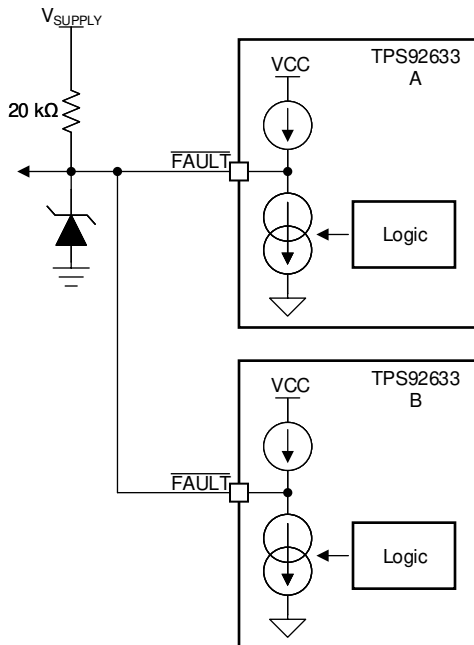
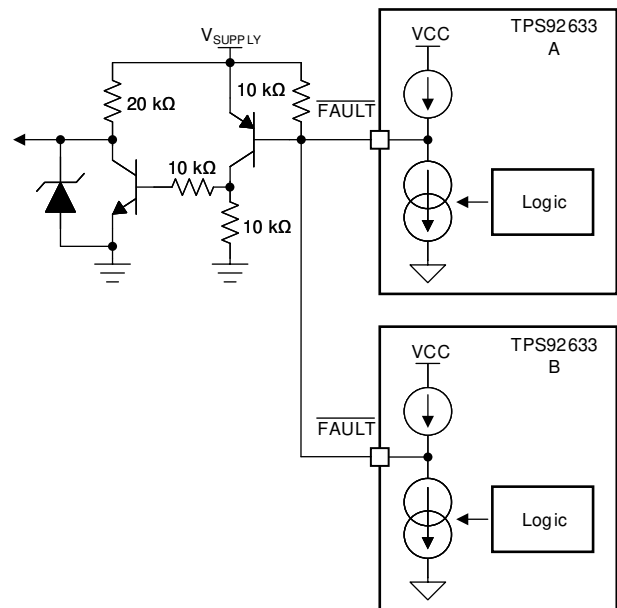

Figure 7-12. FAULT Bus for One-Fails-All-Fail Application
Figure 7-13. FAULT Bus for One-Fails-Others-On Application
Based on this feature, the TPS92633 device is able to construct a FAULT bus by tying FAULT pins from multiple TPS92633 devices to achieve one-fails-all-fail function as Figure 7-12 showing. The lower side TPS92633 (B) detects any kind of LED fault and pulls low the FAULT pin. The low voltage on FAULT pin is detected by upper side TPS92633-Q1 (A) because the FAULT pins are connected of two devices. The upper side TPS92633 (A) turns off all output current for each channel as a result. If the FAULT pins of each TPS92633 are all connected to drive the base of an external PNP transistor as illustrated in Figure 7-13, the one-fails-all-fail function is disabled and only the faulty channel is turned off.